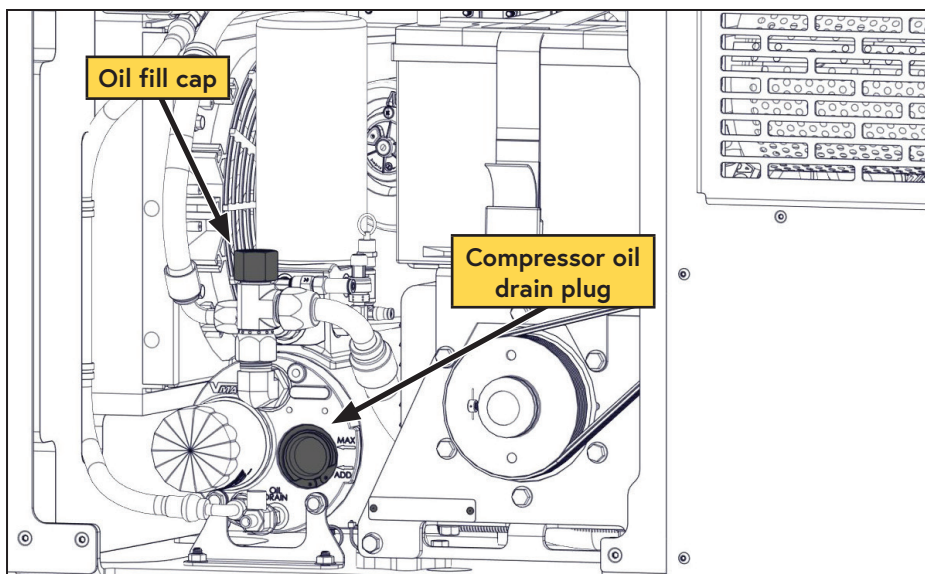

Figure 21 — Inspecting the compressor oil
- ☐ Remove the fill cap (Figure 21).